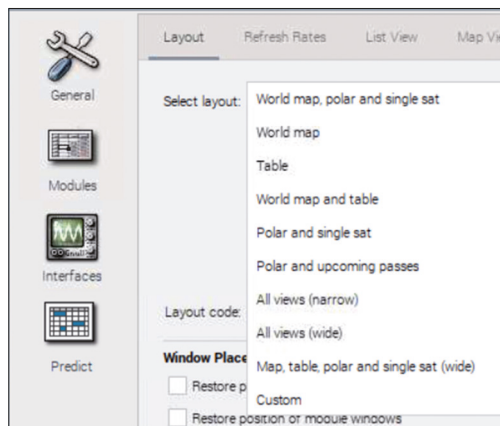

Figure 17.13: Layout options.
**Layout** — Select the display layout and window placements. Figure 17.13 shows the layout options.